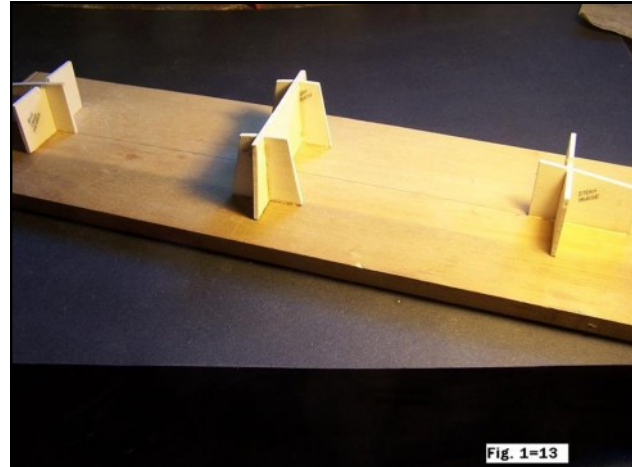

Fig. 1-13
- Mark the locations of both Horses on your Construction Board with a pencil. Remove the Mold and glue the Horses in place at your markings. See Fig. 1-13.